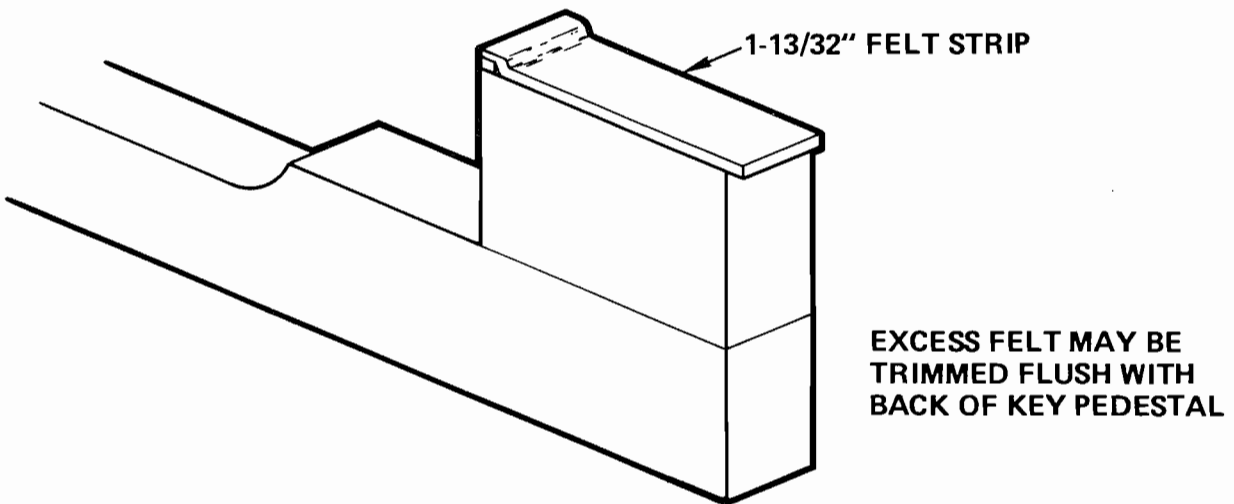

Figure 6-6. Key Pedestal – Felt Modification Complete
12. Remove the  $1\text{-}13/32''$  (35.719mm) Felt Strips from the paper backing one at a time and place them on the top surface of the Key Pedestal with the  $5/32''$  (3.969mm) Felt Piece mounted. Be particularly careful to ensure that the  $1\text{-}13/32''$  (35.719mm) Felt Strip is flush with the front (closest to the Key Cap) surface of the Key Pedestal (Figure 6-6).